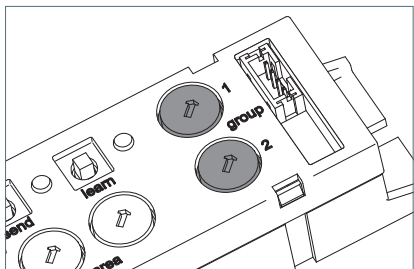

Fig. 16: "group1" and "group2" rotary coding switches
- If you want to assign the luminaire to exactly one group, both rotary coding switches "group1" and "group2" should be set to the same group address, see Fig. 16.